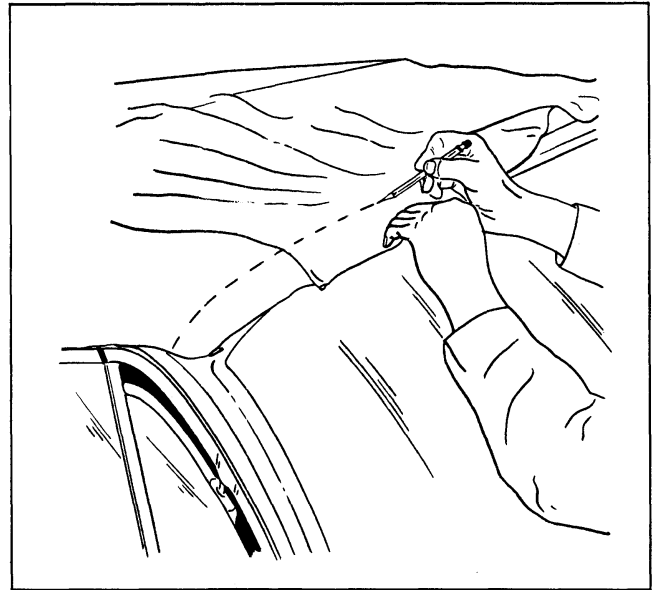

Fig. 22-52 Marking Top Material
49. At front roof rail, pull top trim material forward to desired tension. While maintaining tension on top trim, place a pencil mark on outer surface of trim material along forward edge of front roof rail (Fig. 22-52).